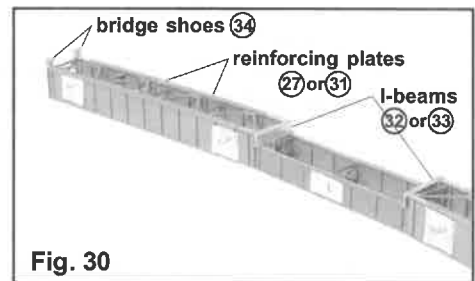

Fig. 30
Be sure the reinforcing plates are on the correct side, i.e. bottom side of the span. See fig. 30.
The I-beams are needed so the 30 ft. spans are supported at the correct height on the towers. See fig. 30 & 31.
36. Cement a **bridge shoe** part (34) to the end of each girder at the abutment ends of the bridge. See fig. 30.